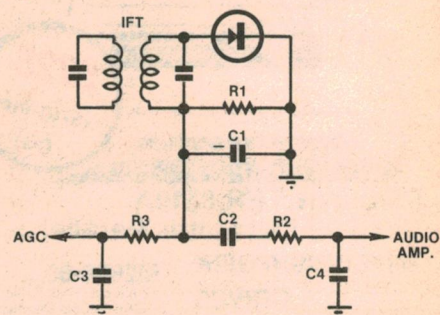

Fig. 2: Basic circuit configuration for a diode detector in a superhet receiver.
Fig. 2 shows a diode detector configuration which is fairly typical of what has been used in both valve and solid-state AM receivers — usually superhet receivers. (A particular polarity has been assumed for the diode but this does not affect the basic reasoning.)
Other components in Fig. 2 will be referred to later.
Fig. 4: Diagram (a) illustrates an input signal, unmodulated (A to C) and amplitude modulated (C to D). Diagram (b) shows the current pulses through the diode, which charge the storage capacitor (C1 in Fig. 2) thereby DC shifting the RF input waveform as in diagram (c). The voltage across C1 can be filtered to isolate the audio signal, and also the DC component for automatic gain control.
relationships in a typical diode detector circuit (eg Fig. 2) plotted against time.
If this signal was to be applied to a detector circuit (eg Fig. 2) the first few positive-going half-cycles would cause heavy uni-directional current pulses through the diode, through the secondary of the IF transformer, and through capacitor C1, building up across it a charge negative with respect to chassis-earth.
In short, in the presence of an unmodulated signal, a diode detector circuit tends rapidly to reach a state of equilibrium such that the energy drawn from the tips of the positive-going half-cycles is just sufficient to maintain the charge across the bypass/storage capacitor (C1 in Fig. 2).
Referring back to Fig. 2, the DC component can be blocked by coupling capacitor C2, while the RF component can be attenuated by series resistor R2 and RF bypass C4. If desired, the DC component can be isolated and preserved for purposes of AGC (automatic gain control) by means of a long time-constant filter, R3/C3.
(1) It assumes that the passband of the tuned circuits preceding the detector will be sufficiently wide to admit the carrier and a substantial proportion of the sidebands. To the extent that the outer sidebands are attenuated — as happens in most AM receivers — the higher frequency audio components are diminished or lost, irrespective of whether we analyse the effect in terms of their absence from a "mixer" calculation, (frequency domain), or from a summed voltage waveform (time domain).
(2) It accepts that the carrier/sideband frequency components that do pass through the selective circuits are summed at the detector into a modulated RF waveform having the general shape envisaged in the original article in our October issue, and supported by correspondents and by Dr Imrie in last month's "Forum". Viewed as a rectifier, a diode detector is sensitive only to the instantaneous applied voltage, not to the subtleties of how that voltage was arrived at.
(3) It rationalises the too simplistic explanations of diode detectors which appear to have upset correspondent D.D. (Jan '83, page 99) — in particular the role of the storage capacitor (C1 in Fig. 2) in bridging the peaks of the cycles in an RF waveform. Fig. 4c acknowledges the storage effect of C1 but puts it into proper context.
(4) It satisfies — for me, anyway — the observation in last month's "Forum" that it was possible to present "a straightforward explanation (in the time